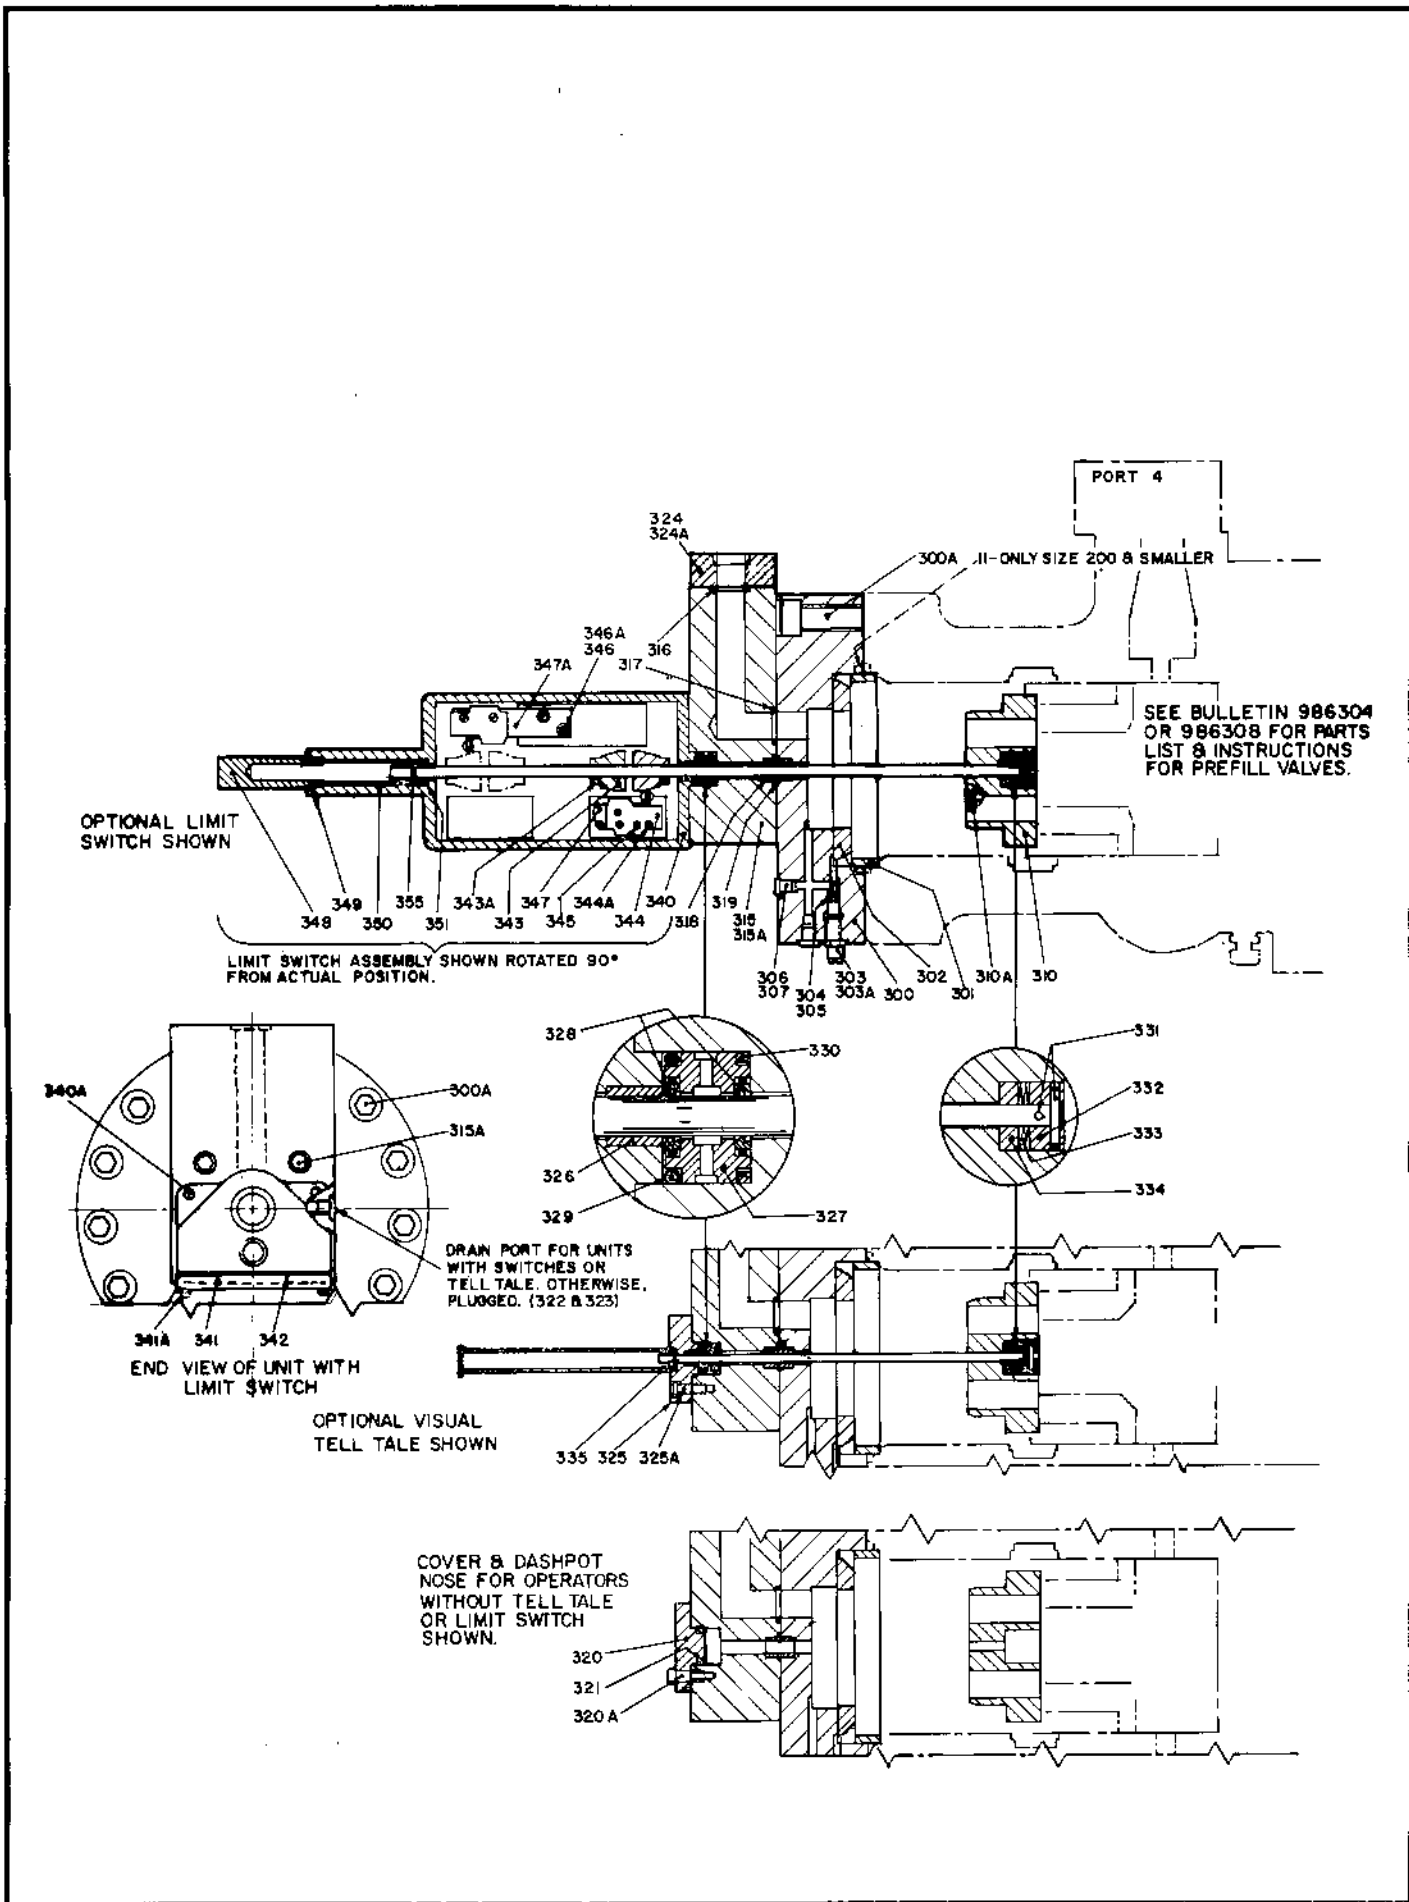

Figure 2. Parts Drawing, Modular Plain Type Operator. DS 986321 (516665).
Refer to Figure 2. The principle parts of this operator are a dashpot nose (310) on the control piston, a floating dashpot mechanism (302) in the rear head (300), and an adapter block (315). Optional limit switch assembly (340) or visual tell tale assembly (325) may also be mounted on the module adapter block (315).
Refer to Figure 2. It will be advantageous to tag similar parts (particularly screws, plugs and o-rings) during disassembly to be certain they don't become confused with similar parts and to ensure they will be returned to original location.
Avoid allowing cylinder prefill plunger (18) movement beyond normal closed position or piston rings will expand in Port 3 relief and lock plunger in body. Refer to Figure 2. Depending upon what part or parts are to be inspected, it may not be necessary to completely take apart all assemblies or disconnect piping.